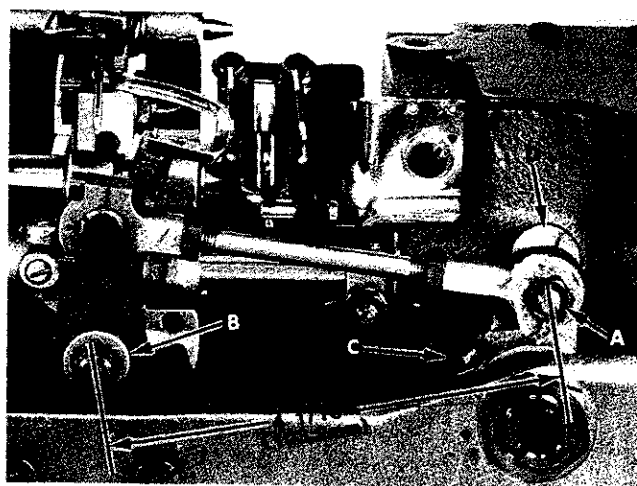

Fig. 5
With the looper at extreme right end of travel, check location of the right looper connecting rod bearing using gauge No. 21227 CX. Remove nut (A, Fig. 5) and place hole of gauge over threaded stud. The left end of gauge should locate against the RIGHT side of looper rocker cone (B). If adjustment is necessary, loosen clamp screw (C) and reposition looper drive lever (D) as required, then tighten screw (C).
If gauge is not available, check setting with a scale. Distance between the centerline of rocker cone and centerline of looper drive lever stud should be $4 \frac{1}{16}$ inch (103.2mm) as shown in Fig. 5; when looper is at its extreme right end of travel.